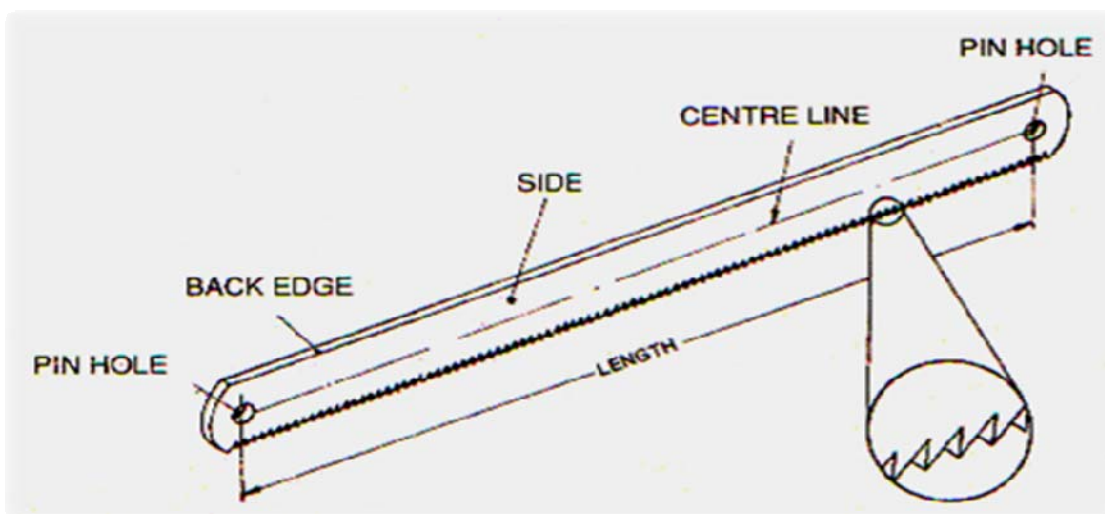

Fig.4.4: Hacksaw Blade.
2. Blade length which is the length between the centers of its pin holes as shown in Fig.4.4.